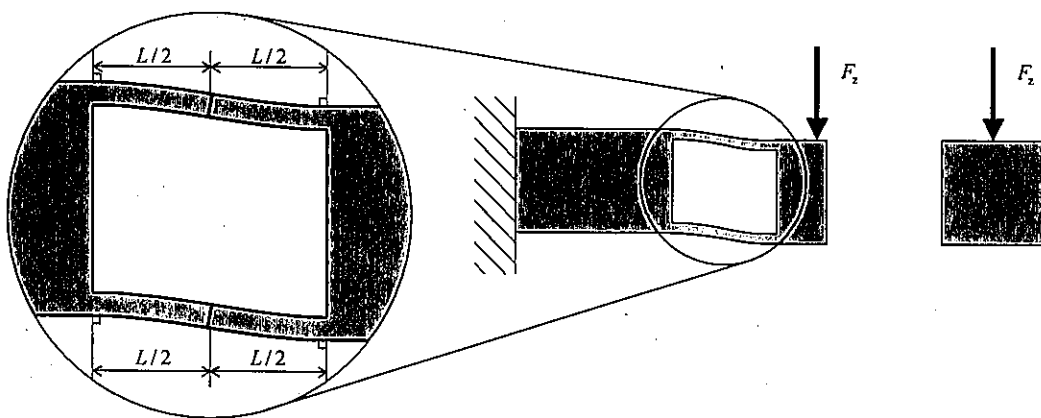
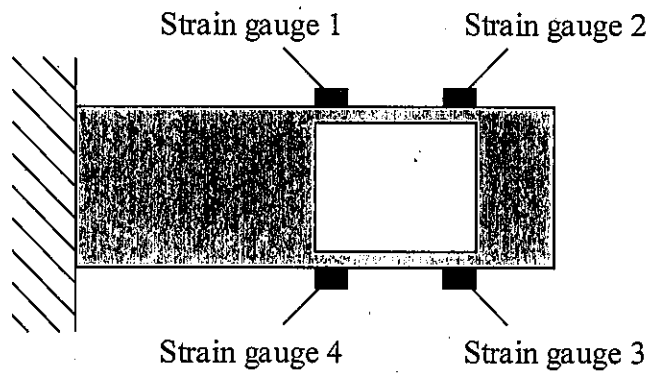

Figure 3-2
Figure 3-3
- (1) When a force  $F_z$  is applied on the tip part of the structure, it deforms as the schematic diagram shown in Figure 3-2. Express the displacement of the tip part by  $F_z$  in the  $z$ -direction using  $F_z$ ,  $E$ ,  $b$ ,  $L$  and  $t$ . Here, each thin plate can be regarded as two cantilevers of length  $L/2$  facing each other.
- (2) Express the maximum  $x$ -direction strain in the thin plates using  $F_z$ ,  $E$ ,  $b$ ,  $L$  and  $t$  in the case of Question (1).
- (3) The force  $F_z$  must be determined so that the thin plates do not plastically deform. Find the condition that  $F_z$  should meet, in case that the thin plates deform plastically when the strain in Question (2) exceeds 0.2%. Here,  $E = 60 \text{ GPa}$ ,  $b = 20 \text{ mm}$ ,  $L = 20 \text{ mm}$  and  $t = 0.2 \text{ mm}$ .
- (4) This force sensor is used under a condition where it does not resonate. Consider the natural frequency of the structure itself. Obtain the primary natural frequency of the thin plates with two significant digits when  $\rho = 2.5 \text{ g/cm}^3$  and  $a = 15 \text{ mm}$ . Here, approximate  $\frac{1}{2\pi} \approx 0.16$ .
- (5) Describe how to change the dimensions of the structure for doubling the displacement in the  $z$ -direction of the tip part without changing its primary natural frequency obtained in Question (4), when  $F_z$  is applied.
- (6) Four strain gauges are attached to the structure as shown in Figure 3-3, for detecting the force  $F_z$ . The method of detecting the force with four gauges has advantages compared to the method using only Strain gauge 1. Describe two of the advantages and their reasons in around 30 words, respectively. In addition, draw the bridge circuit configuration with four strain gauges for obtaining these advantages.